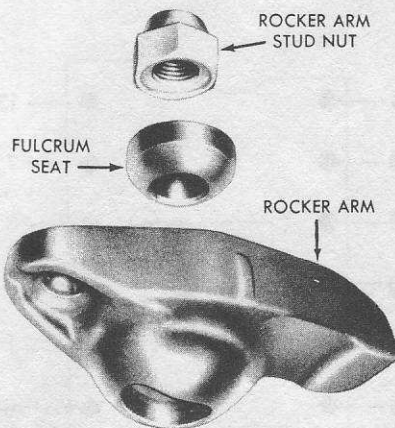

Fig. 1.14 Rocker arm and retaining nut (Sec. 12)
- 1 On engines equipped with stud-mounted rockers, remove the rocker arm retaining nuts and lift off the fulcrum seats and rocker arms. Note that on some engines the rocker arms are retained by a bolt, and oil deflectors are installed (see Figs. 1.14 and 1.15).